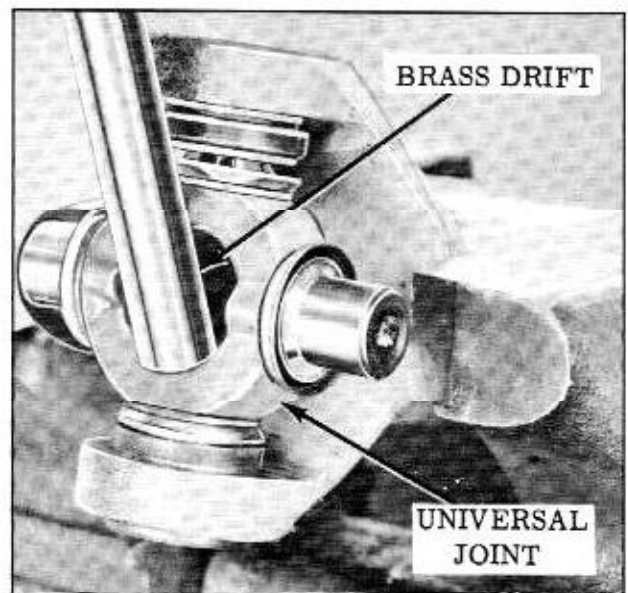

Fig. 6-38 Removing "U" Joint
- Drive on spider until bearing is partially forced out of yoke. (Fig. 6-38)